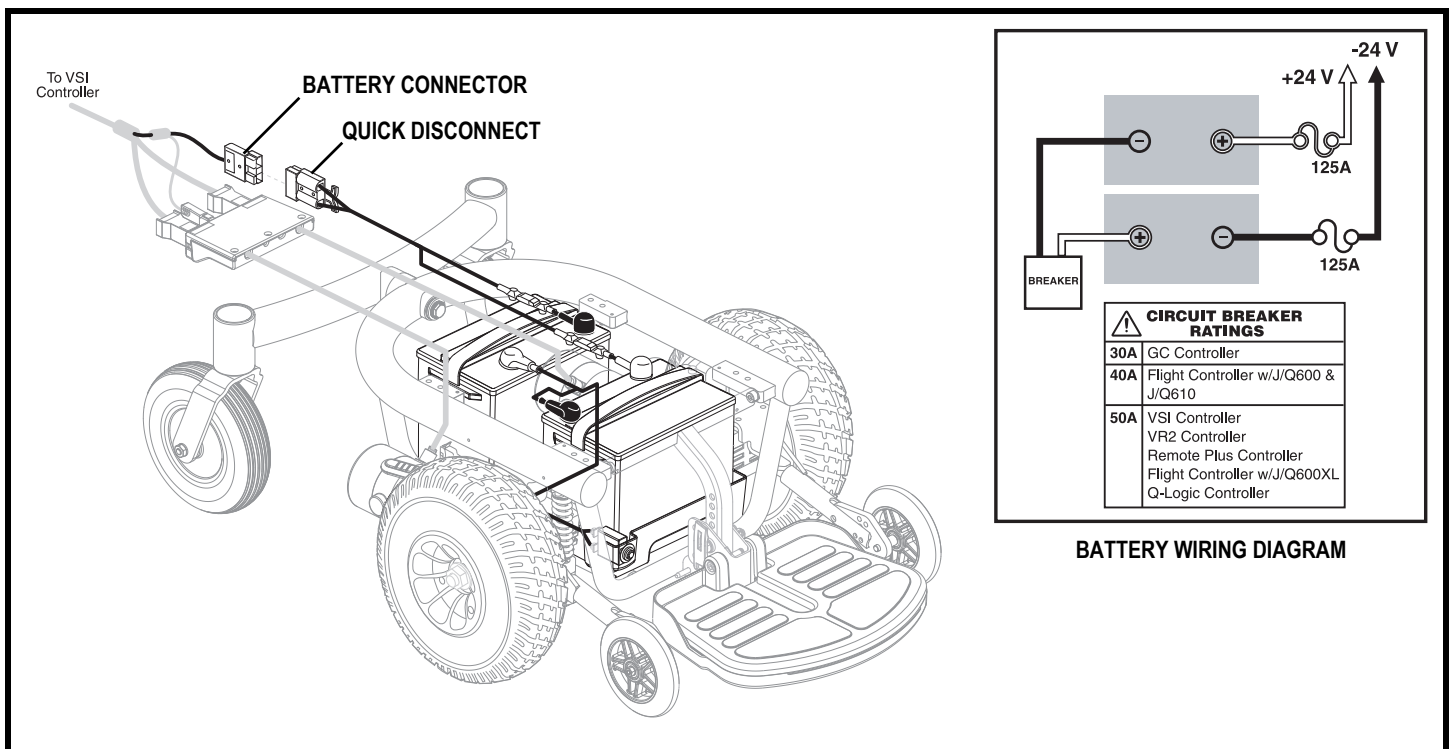

Figure 29. Quantum 1103 Ultra Battery Connections
A battery wiring diagram is printed on a decal located on the battery tray. See figure 29. See VI. “Batteries and Charging” for correct battery specifications.
5. Unplug the battery connector. See figure 29.
18. Connect the wiring harnesses to the front battery. See figure 29.
19. Connect the wiring harnesses to the rear battery. See figure 29.